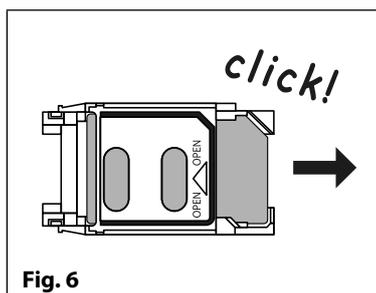

Fig. 6
4. Slide the SIM holder back to the right until it 'clicks', see **Fig.6** (in the case of the GSMVRK and Art.2270 GSM modules slide it back to the left).